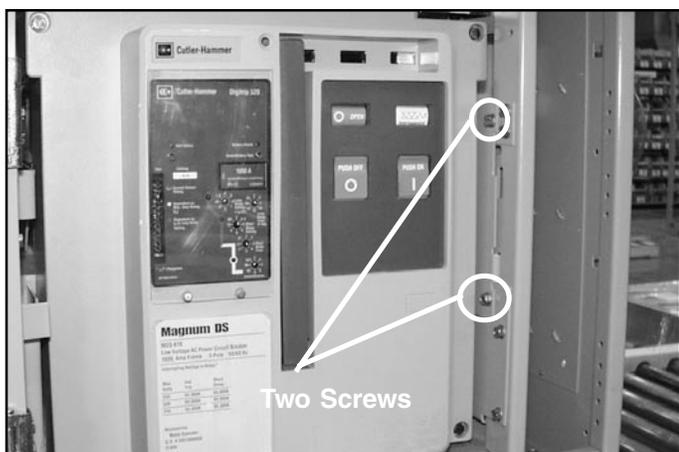

Figure 3-5.2R
Step 2. To remove the left hand breaker stop, remove the screw as shown in Figure 3-5.2L and pull the metal plate forward. Then remove the two screws as shown in Figure 3-5.2R and pull the metal plate to the left and forward.